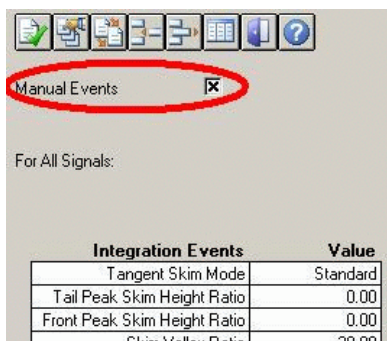

Figure 14 Apply Manual Integration Events each time the chromatogram is integrated
- 3 Check the “Manual Events” option in the Integration Events dialog (see Figure 14).